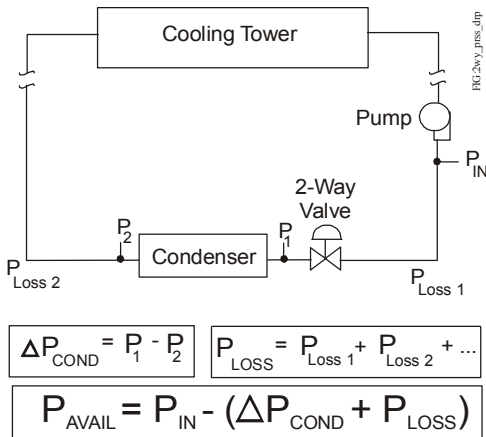

Figure 5: Available Water Pressure
3. Determine the available water pressure to the valve (P_{AVAIL}) using the following steps and Figure 5. This is the actual water pressure available to force water through the valve.
3. Determine the available water pressure to the valve. See Figure 5.